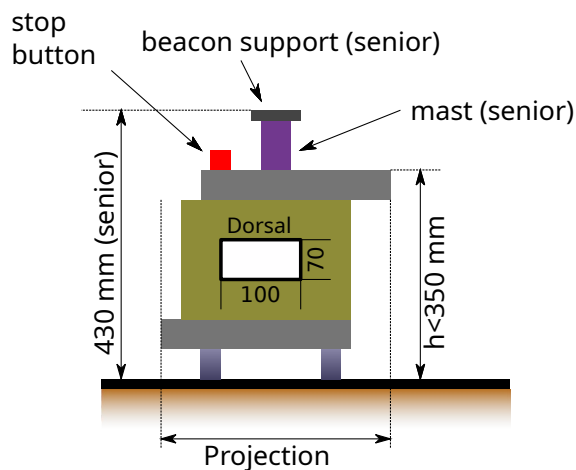
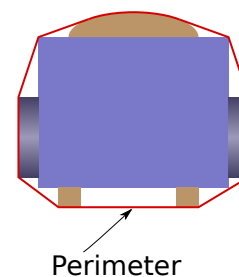

Figure 1: Robot dimensions
Figure 2: Convex envelope
- It is the perimeter of the convex envelope of the robot's vertical projection on the ground (Figure 2). If the sides of your robot are not perfectly vertical, you must project each point on the robot vertically to determine its perimeter (see Figure 1).
- Height less than 350 mm (not including the emergency stop button or beacon support, see Figure 1).
- A vertical space measuring 100 mm (width) × 70 mm (height) where the team's number will be placed (see Figure 1):